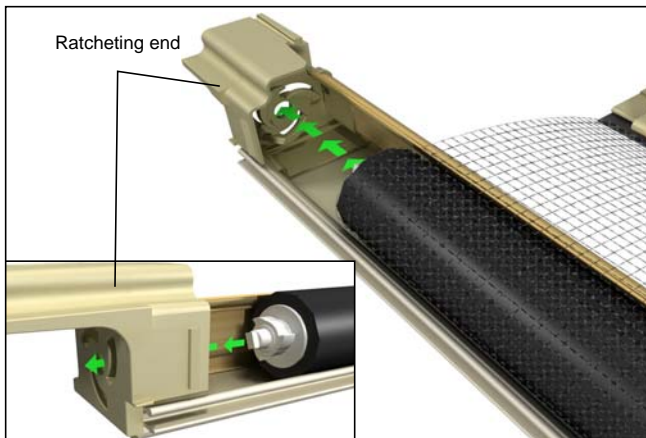

Figure 28
3. Insert the screen roll into the ratcheting end. See figure 28.